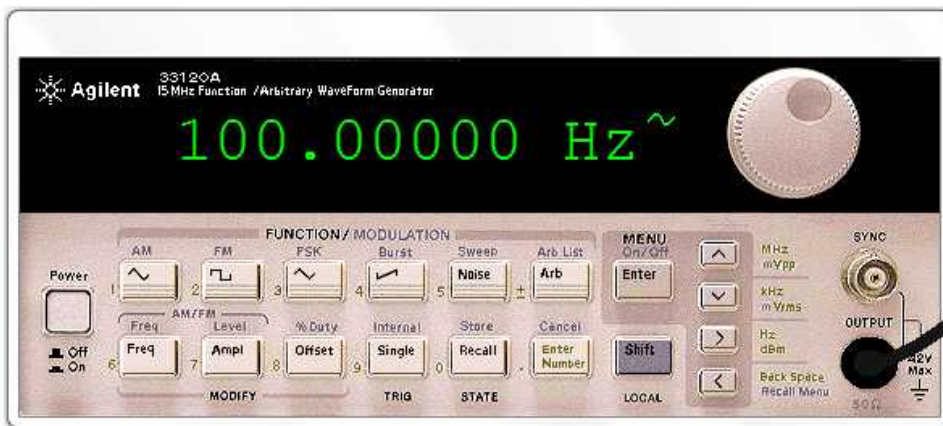

Figure 3-15: RL high-pass filter, real world circuit connection
2. Construct RL high pass filter circuit as illustrated in circuit connection figure 3-15.